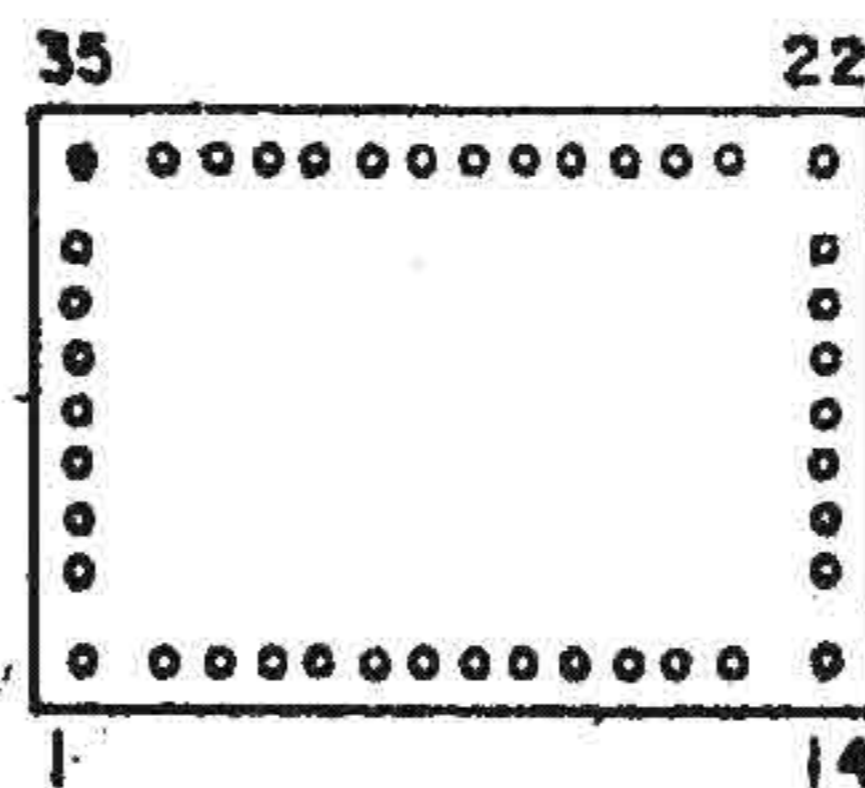

Fig. 2-40. Logic controller A1, schematic circuit diagram
h. Logic Controller A1 (fig. 2-40). Refer to para. c. for block diagram analysis.
(1) The operation of the logic controller is described by the truth tables given in Tables 2-11 through 2-13.